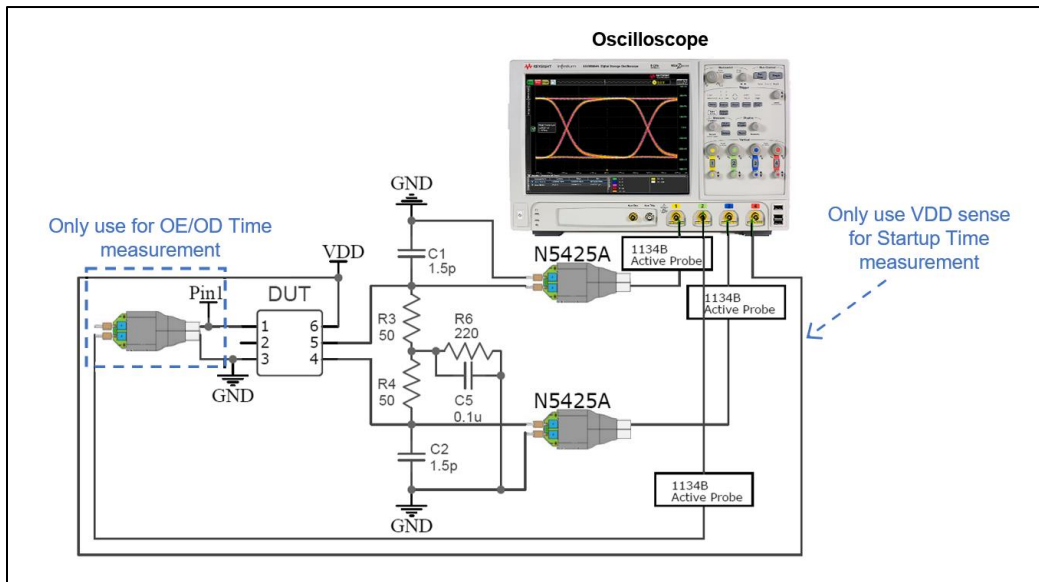

Figure 7. Test setup to measure FlexSwing Output Waveform Characteristics^[16], Current Consumption^[16], Output Enable/Disable Time, and Startup Time
- 13. See Figure 7 for the test setup to measure LVPECL Current Consumption with Termination 1 or without Termination.